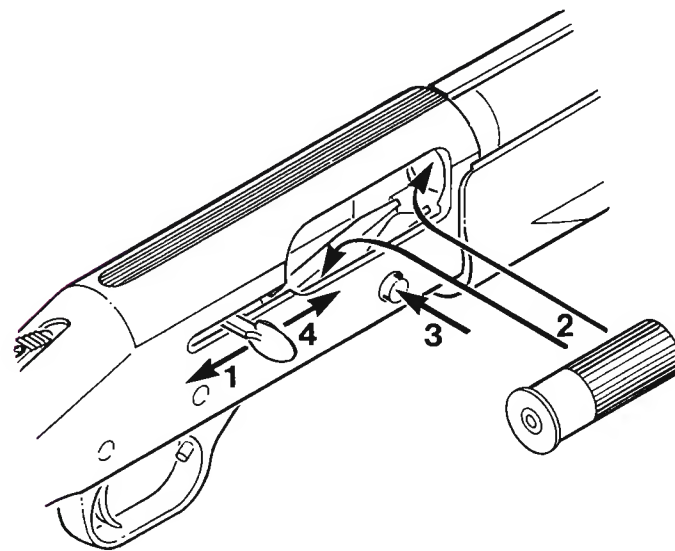

Figure 5
1. Lock action open by pulling operating handle rearward (Figure 5).
2. Load the first shell through the ejection port located on the right side of the receiver. The shell can be inserted directly into the chamber or placed on top of the elevator (Figure 5).